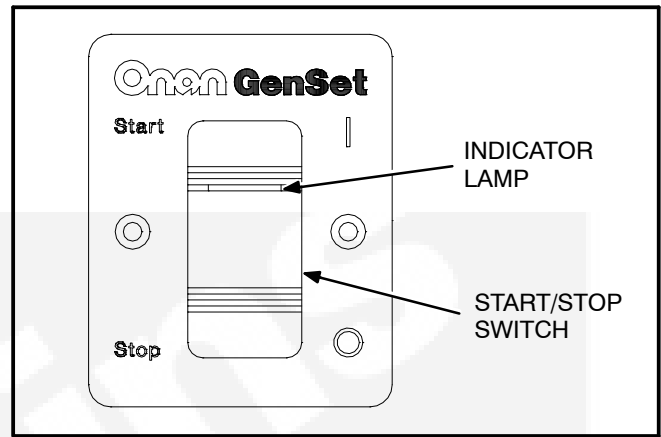

FIGURE 8-3. REMOTE PANEL WITH START/STOP SWITCH ONLY
- Remote panel with start/stop switch and indicator lamp only (see Figure 8-3).